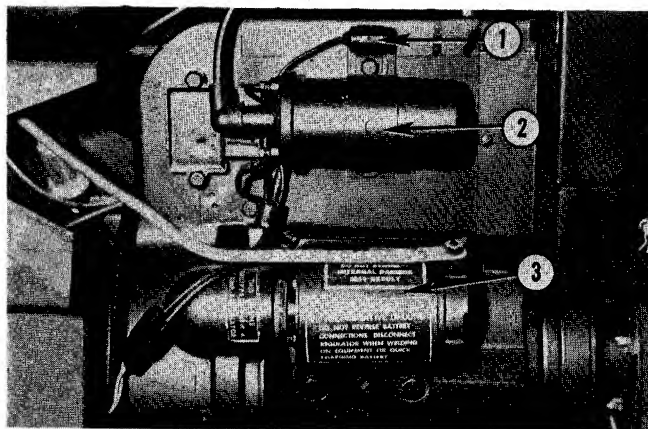

Fig. 10 — Starter Motor Location
1. Never operate starter motor, Fig. 10, continuously for more than 30 seconds. Prolonged operation can damage starter motor. If engine does not start after a few seconds, release ignition key and allow a few moments for starter to cool before again attempting to start.